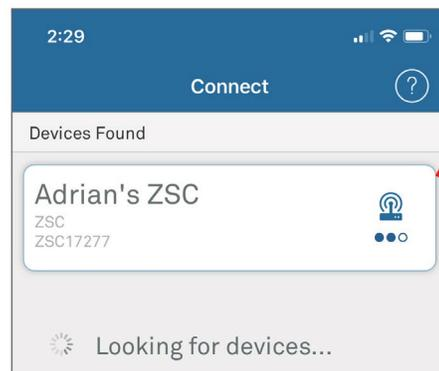

Figure 11. ZENTRA Utility window
6. Press the ZSC (Figure 11) to establish a Bluetooth connection (in this example, Adrian's ZSC).